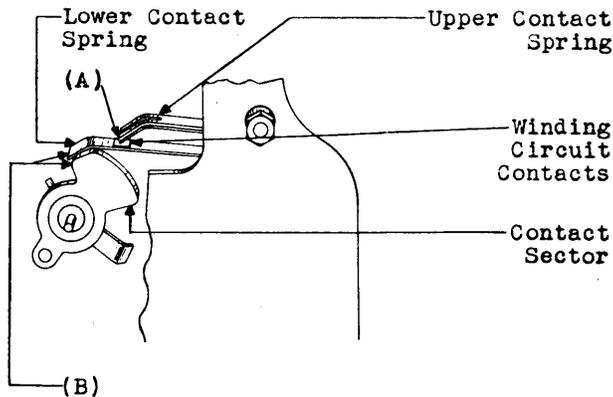

Fig. 4 - Winding Circuit Contacts
- *2.11 Contact Separation - Fig. 4 (A): The contact separation between the winding circuit contact springs, when in their normal position, shall be approximately 1/32" Gauge by eye.
- *2.12 Alignment of Contact Spring and Contact Sector - Fig. 4 (B): With the contact sector about to touch the lower contact spring, the tip of the spring shall be approximately even with the edge of the incline of the contact sector. Gauge by eye.